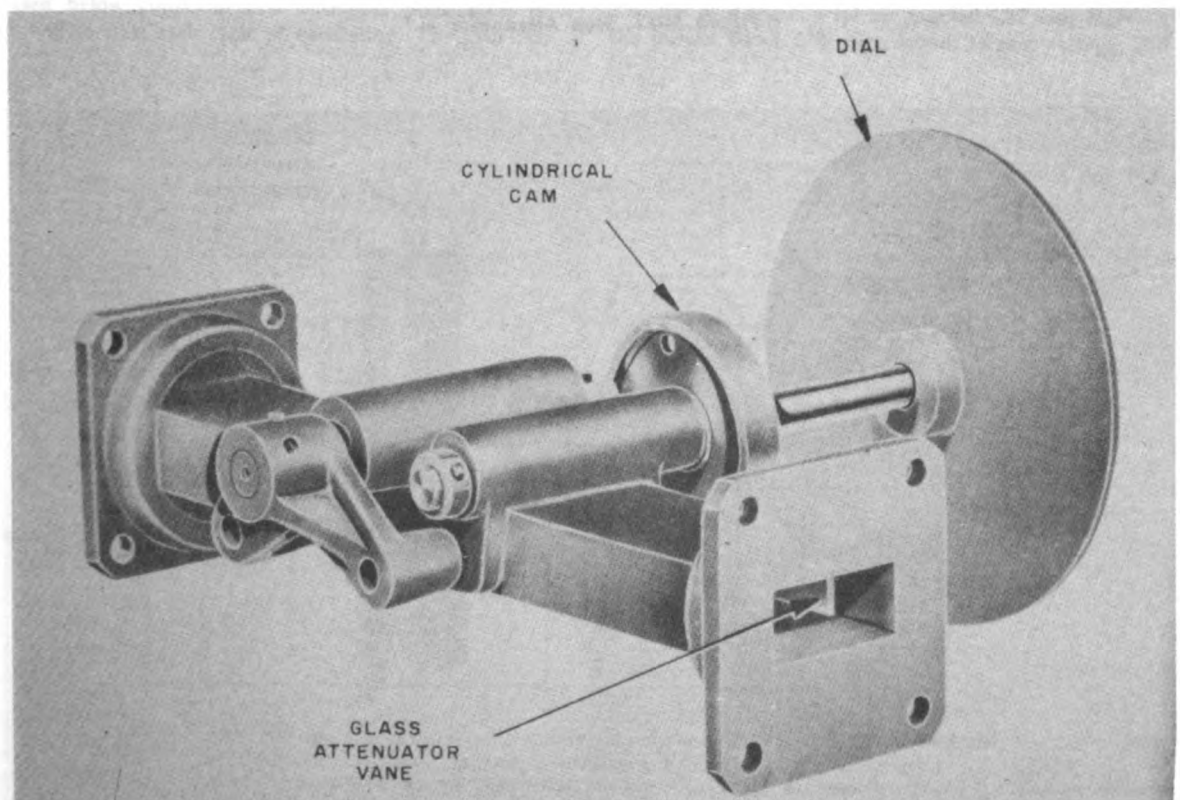

Figure 2-10. DBM Calibrated Attenuator
(5) DBM CALIBRATED ATTENUATOR (See figure 2-10).—The Dbm attenuator consists of a resistance-coated glass vane rigidly mounted to a pair of sliding rods within a section of waveguide. A linear cylindrical cam driven by the Dbm knob provides the means for adjusting the position of the slide rods and the attenuator vane throughout the range of the electric field within the waveguide, from minimum at the side to maximum at mid-guide.